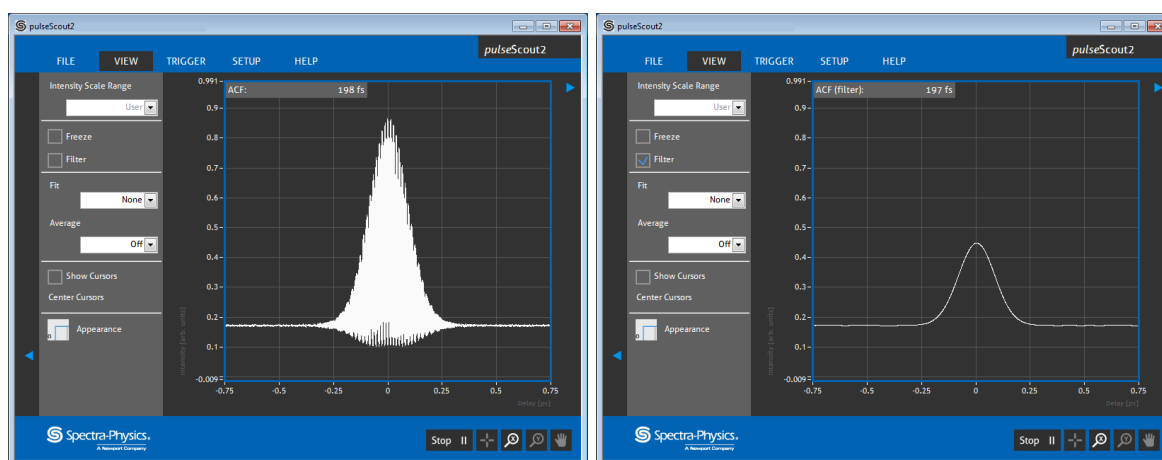

Figure 5.1.: Collinear ACF measurement with filter OFF (left) and filter ON (right)
2. If measuring in collinear mode the autocorrelation function is modulated with a fringe pattern. The filter suppresses this modulation. (This is not the case in triggered mode. In triggered mode go to slightly non-collinear configuration.) A comparison of collinear ACF with the filter switched on and off is pictured in Figure 5.1. Also note that the filter is automatically switched off in triggered measurement mode.